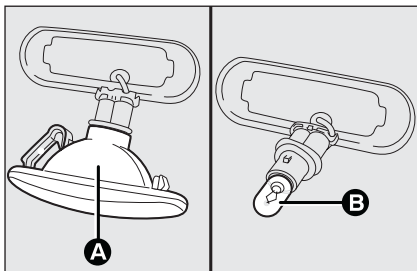

fig. 28
- remove the transparent cover **A**-fig. 28 from bulb holder (it is pressure-fitted);